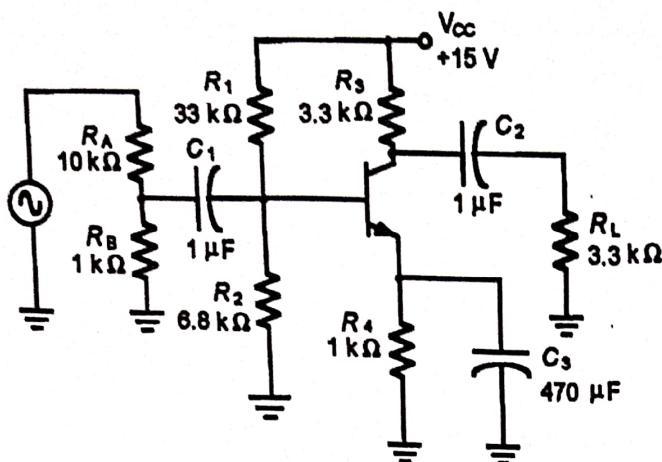

Figure 22.1
1. Construct the circuit in Figure 22.1.
1. Starting with the circuit of Figure 22.1, place a jumper wire to short the output capacitor, C₂.